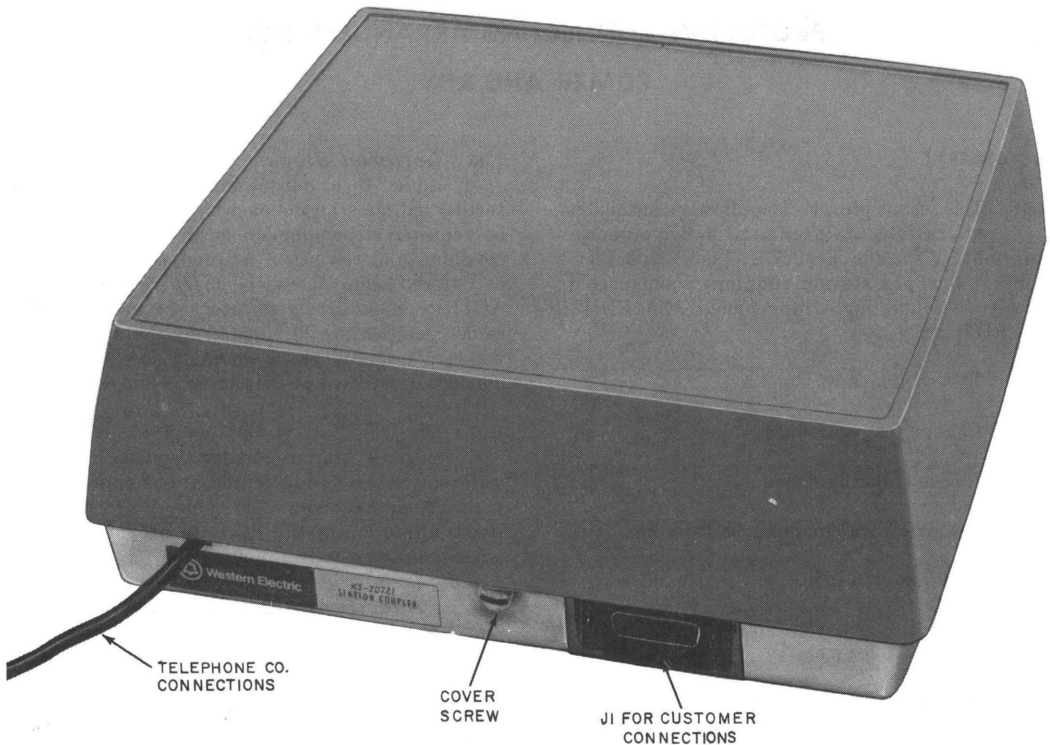

Fig. 1—KS-20721, List 1 and List 2 Station Coupler
**1.03** The KS-20721 station coupler (Fig. 1) is used to provide services similar to those provided by the KS-19522 recorder coupler for answering sets and recorders. However, the plug and wiring connections may be different and substitution should not be made without customer approval.
- Coupler, Station, KS-20721, L1 (Fig. 1 and 2)—used for PCA RDMZR
- Coupler, Station, KS-20721, L2 (Fig. 1 and 3)—used for PCA RDY
**3.02** A 15-pin connector (J1, Fig. 1) is located on the base of the unit to connect the transmission